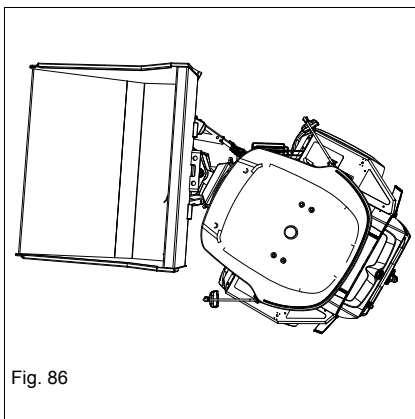

Fig. 86
1. Steer the vehicle as shown in *Fig. 86*. Stop the engine.